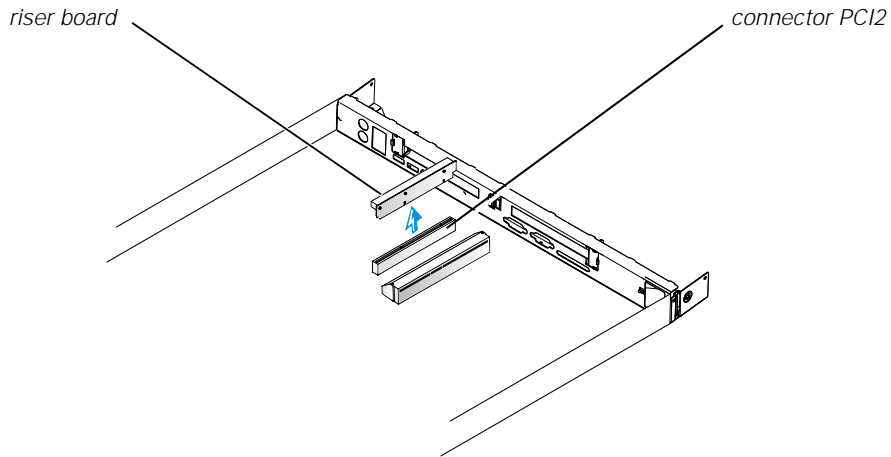

Figure 1-1. Riser Board Removal
6. Lift the riser board up and away from the chassis (see Figure 1-1).